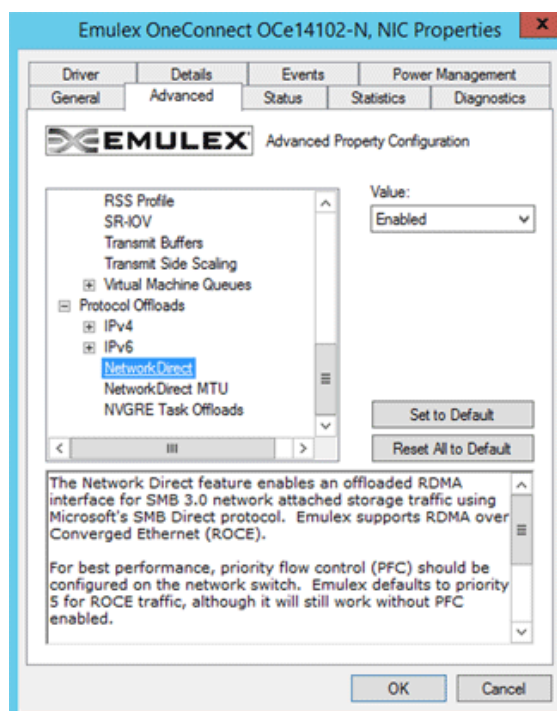

Figure 3-8 Advanced Property Configuration - RoCE-Enabled
- In the Advanced tab of the Network Property page, ensure that NetworkDirect is enabled. See Figure 3-8.